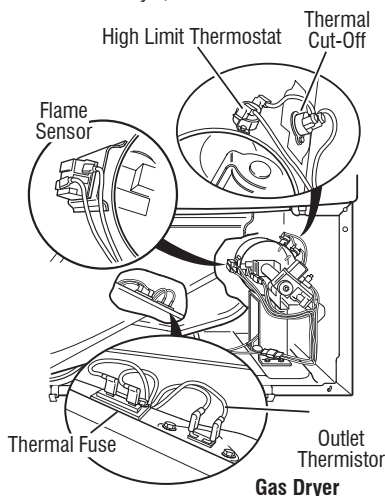

Figure 11 - Thermal components, gas dryer, viewed from front
4. Locate the high limit thermostat (see figure 11, page 16). Measure the continuity through it by connecting the meter probes to the red and black wire terminals.